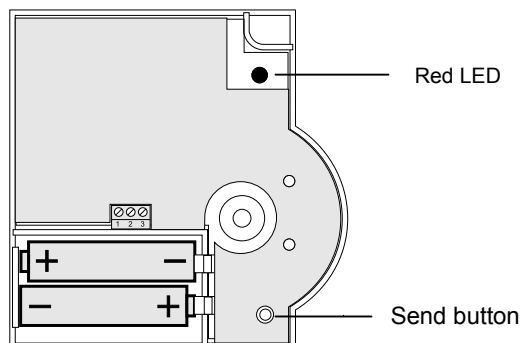

Fig. 2: Battery polarity and Send button
- ▶ Insert the supplied AA batteries with the correct battery polarity (see Fig. 2).
- ▶ Activate the teach-in function within 4 minutes by pressing the Send button at the room temperature sensor (see Fig. 2, Send button).